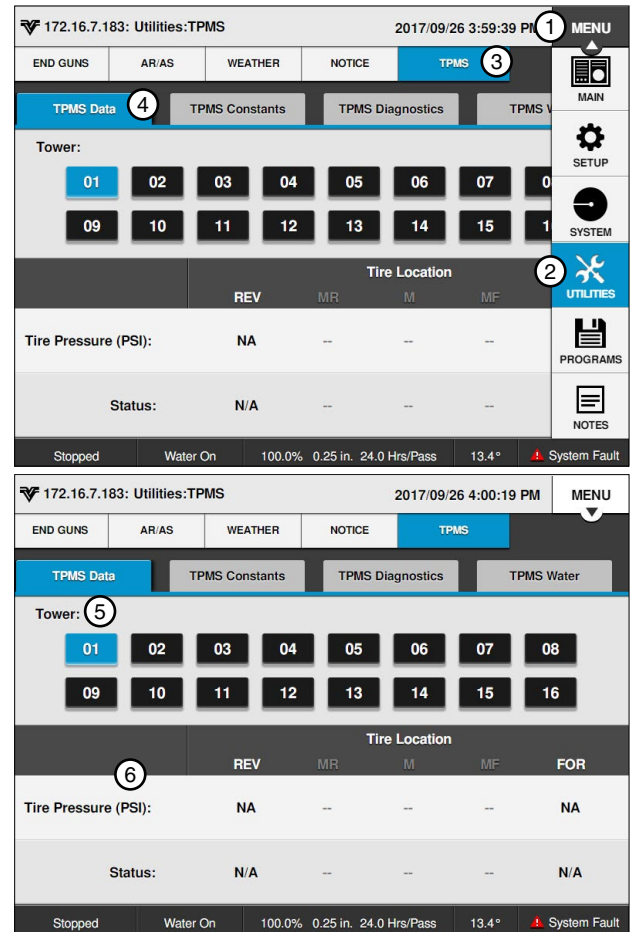

Figure 81-1 1. Menu 2. Utilities 3. TPMS 4. TPMS Data 5. Tower 6. Tower Information
Push **Menu**, **Utilities**, and **TPMS** to display the TPMS menu. Refer to Figure 81-1.
1. Push **Menu**, **Utilities**, **TPMS**, and **TPMS Data** for the Tire Pressure Data screen. Refer to Figure 81-1.